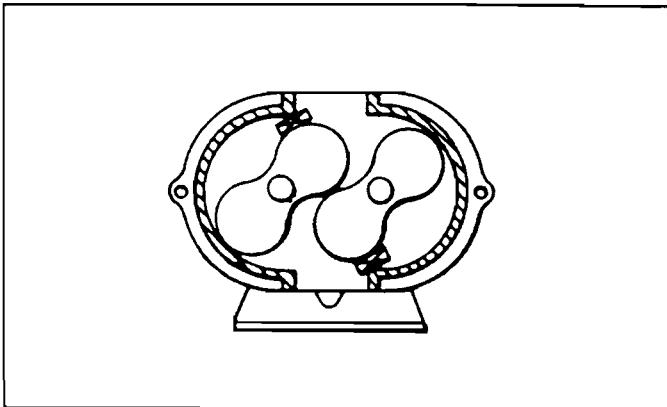

FIGURE D-1
**WARNING** Do not remove gearnut (21) completely before unseating the gears.
Wedge the lobes as shown in Figure D-1. Unseat gear nuts (21) and back them off about  $\frac{1}{4}$ ".